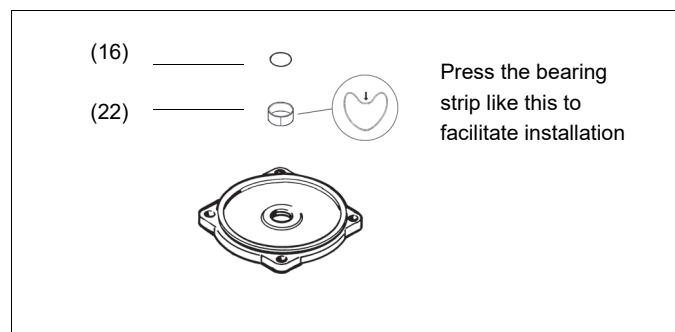

Fig. 5 Mounting the piston rod bearing and seal
- Loosen screws (31) and remove the cylinder end (44) and the cylinder base (6).
- Remove the the piston with the rod (10) from the cylinder.
- Remove the O-ring (16) and the bearing (22). Clean the seal space. Lubricate the seal space and the new O-ring with Unisilikon L250L or Molykote III. Install the new bearing and O-ring. See Figure 5.